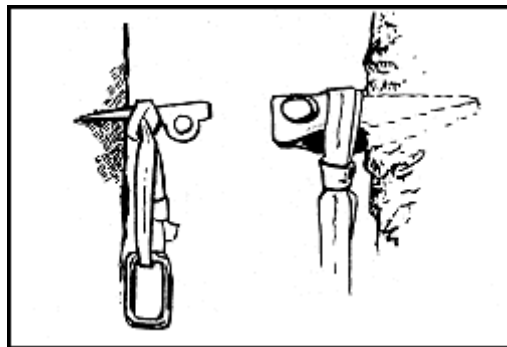

Figure 5-13. Hero-loop.
(3) Military mountaineers should practice emplacing pitons using either hand. Sometimes a piton cannot be driven completely into a crack, because the piton is too long. Therefore, it should be tied off using a hero-loop (an endless piece of webbing) (Figure 5-13). Attach this loop to the piton using a girth hitch at the point where the piton enters the rock so that the girth hitch is snug against the rock. Clip a carabiner into the loop.